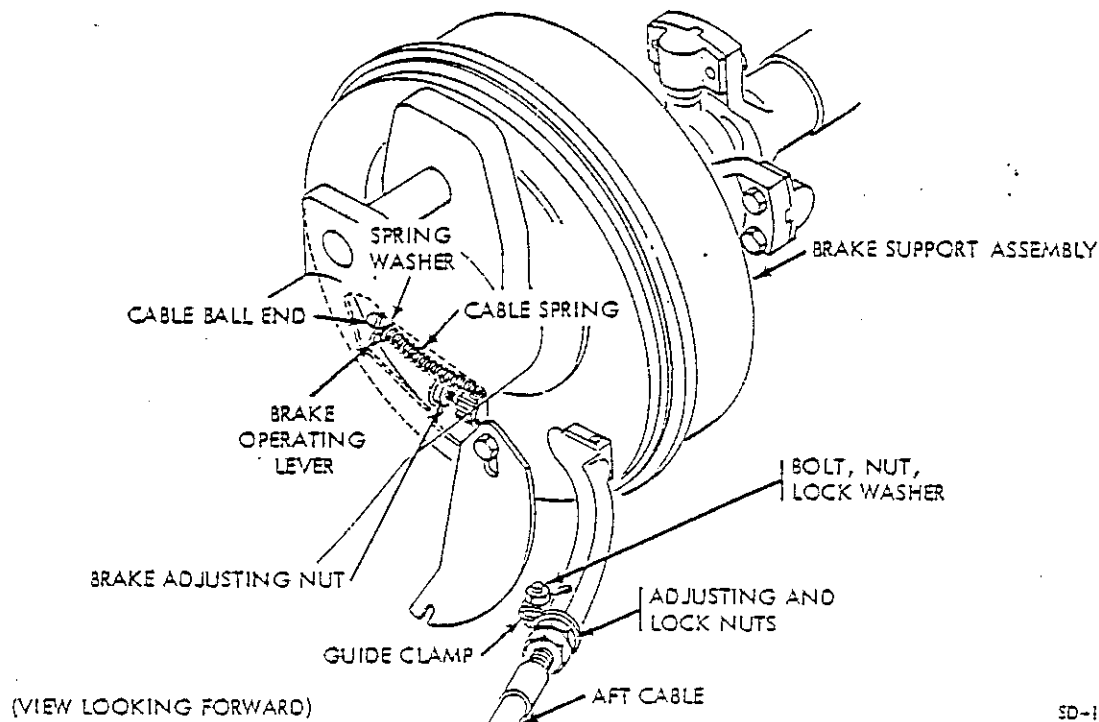

Figure 10-3. Parking Brake Adjustment
b. Parking Brake Adjustment (fig. 10-3). To adjust the parking brake, proceed as follows:
(1) Set coach hand brake lever to the "off" position, turn adjustment knob fully counterclockwise to release all cable tension.
(2) Disconnect rear end of propeller shaft at the brake drum by removing four bolts attaching yoke to propeller shaft.
(3) On transmission side of parking brake drum, remove four screws and access cover over adjusting nut.
(4) Turn brake shoe adjusting nut until drum is felt to have a slight drag. Turn nut back at least one full notch.